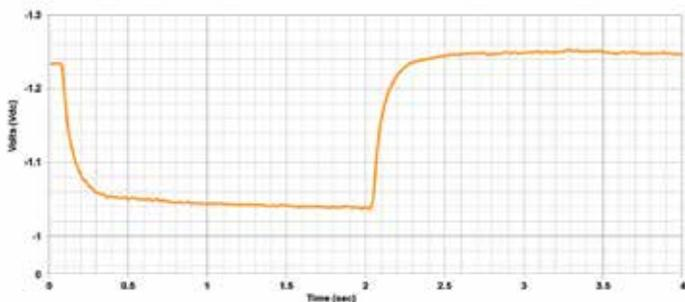

Figure 1 – A typical instant-off response measured on a pipeline.
The purpose of potential surveys is to evaluate the effectiveness of the cathodic protection (CP) system by measuring the polarised potential of the pipeline. However, pipe-to-soil potential measurements are influenced by the CP current, which introduces a measurement error known as IR drop. To eliminate this error, CP sources are synchronously interrupted momentarily, after which the potentials are measured, but before the pipe depolarises. The potentials measured in this way are referred to as instant-off potentials. Such interrupted measurements are typically collected over the length of the pipeline as part of a Close-Interval Survey (CIS) or Close-Interval Potential Survey (CIPS). A typical instant-off potential response is shown in Figure 1.